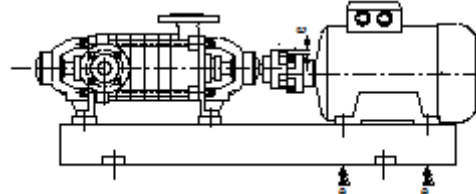
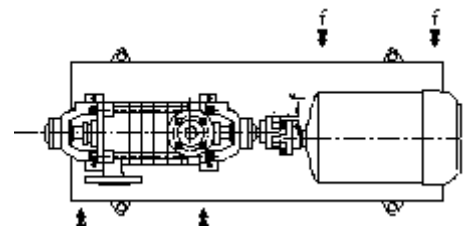

Figure 4: Parallel axis misalignment in vertical plane and its correction
Figure 6: Parallel axis misalignment in horizontal plane and its correction
1.Parallel axis misalignment (Figure4 - Figure 6).